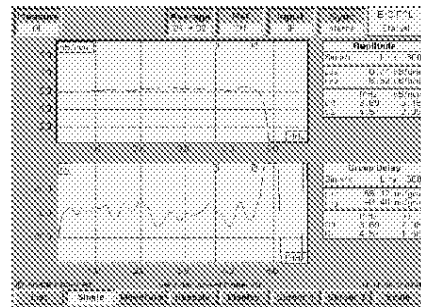

Fig. 10
- ❑ Configure the module with **Precorr on** and calibrate R39, R54, R73, R88, R44, R59, R78 and R91 to obtain the desired group delay mask, if needed calibrate R32, R45, R63, R81, R37, R50, R68, R86 and C49 to make the passing band flat; in case this cannot be done in the base band (the video parameters analyser has no group delay mask for the required standard) the calibration of the IF pre-corrector can be made using the AM receiver set with the trap on the audio carrier enabled, equalising the group delay in order to make it flat as in Fig.10 (thus automatically compensating the trap on the audio carrier of the receiver).